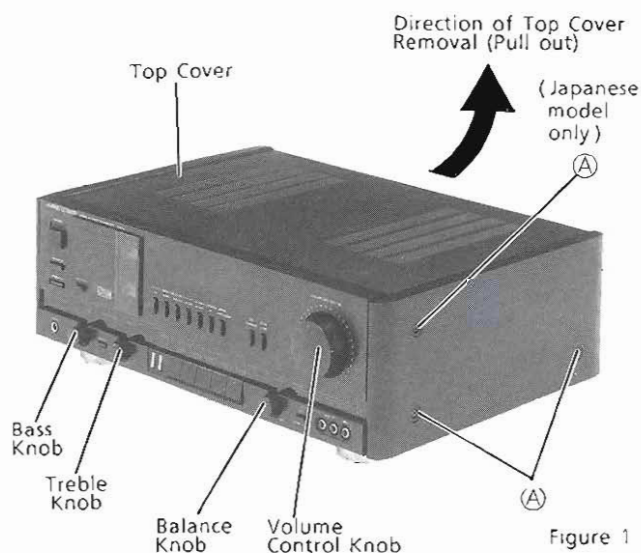

Figure 1
- (1) Remove six screws marked "A" as shown in Figures 1 and 2.
- (2) Pull out the top cover in the direction of the arrow as shown in Figure 1.
- (1) Remove the volume control knob as shown in Figure 1.
- (1) After removal of The Front Panel, remove three control knobs (bass, treble, balance), remove two hooks (A), and remove six screws marked "C" as shown in Figures 1, 2 and 4.
- (2) Disconnect all wires from the Front Escutcheon.
- (3) The Front Escutcheon with Function LED, Tone and Headphone P. C. Boards can be removed completely.